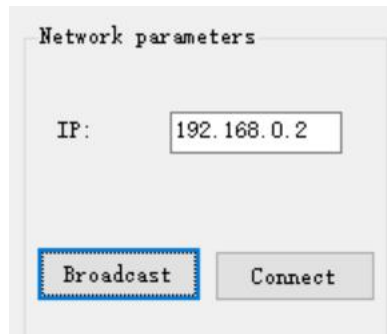

Figure 4.2 Broadcast communication interface
- 2) Click "Broadcast" under the network settings in Figure 4.2 below, and the broadcast interface will pop up.